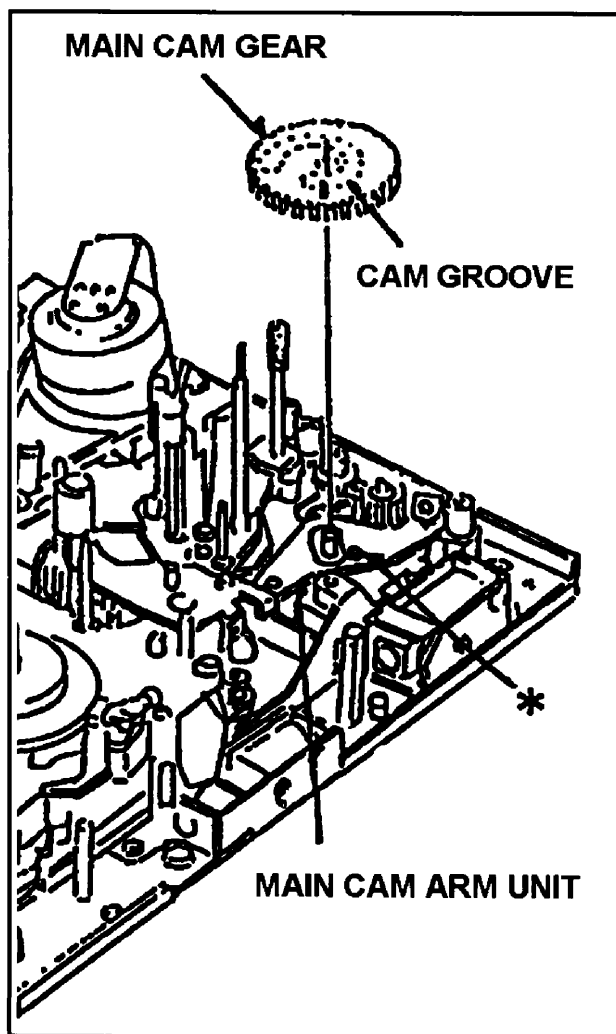

Fig.M13
2. Remove the Pinch Solenoid Unit and Loading Motor Neutral Unit(Refer to item 4 to 6).
3. Remove the Main Cam Gear as shown in Figure M13.
1. Install the Main Cam Gear so that the pin of Main Cam Arm Unit(*) matches with the groove position of Main Cam Gear as shown in Figure M13.